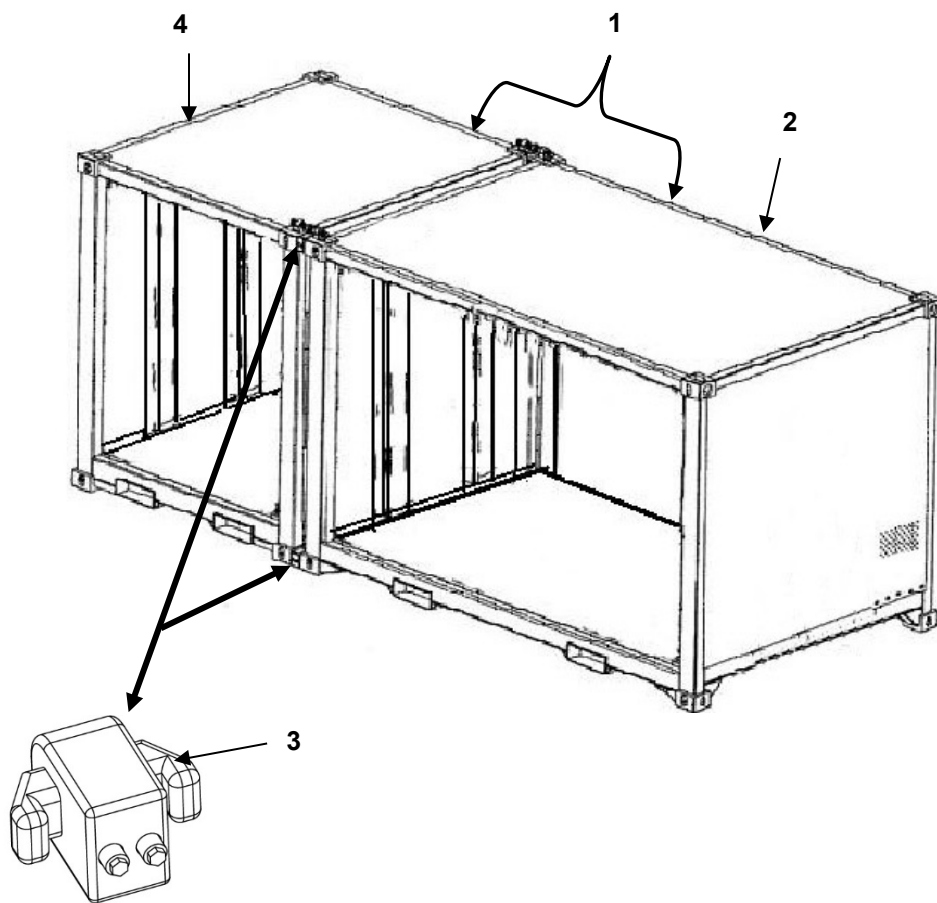

FIGURE 01 FPU -8-2/BOH-CARGO-12-1 CONTAINERS
**FIGURES 01 through 23**
GROUP 01 FIGURE 01 FPU -8-2/BOH-CARGO- 12-1 CONTAINER
END OF FIGURE 01